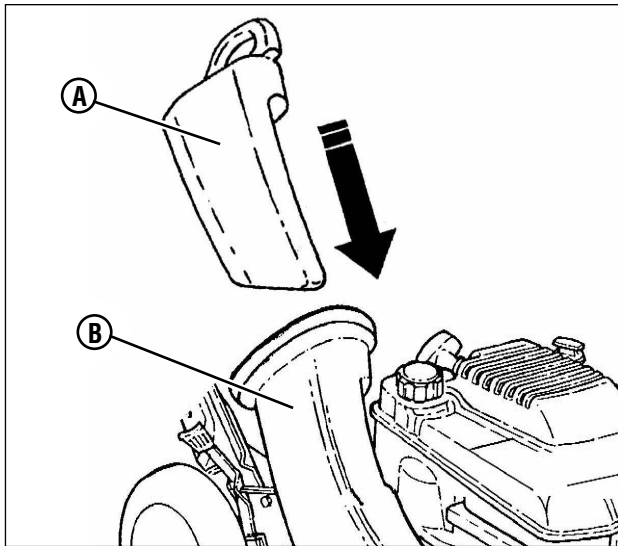

Figure 12: Installing the recycling plug
1. Once the adapter has been installed, recycling may be desired. Insert the recycling plug (**A**, **Figure 12**) completely and securely into the adapter (**B**). Install the grass bag as a safeguard.